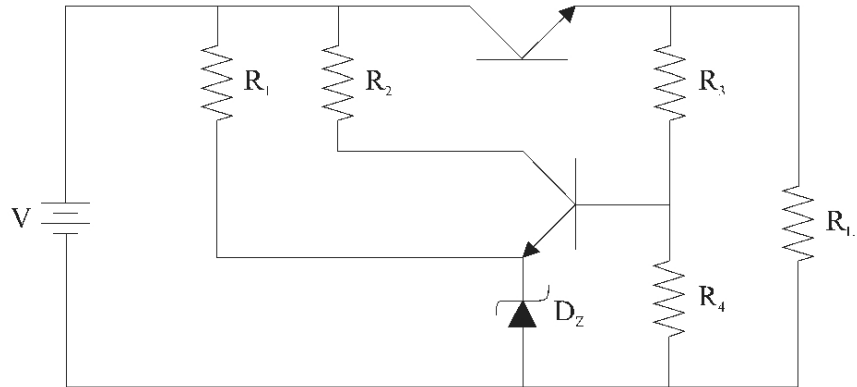

Figure 7-8-2. Discrete regulator with two transistors.
3. Build the circuit shown in figure 7.8.2 and measure the output voltage without load.
2. The variation in the output voltage with respect to the variation in the input voltage in the circuit of figure 7.8.2, is it large or small?